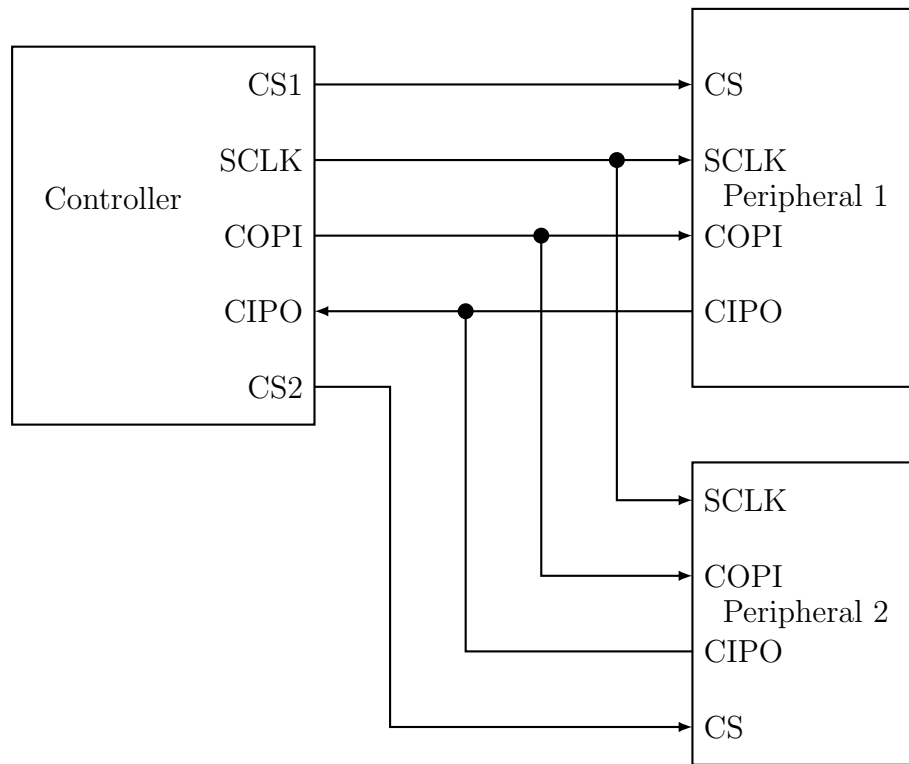

Figure 5.6: SPI allows for one (sometime more) controller and multiple peripherals.
The Serial Peripheral Interface (SPI) is a full-duplex serial interface shown in Figure 5.6. It is setup in a controller-peripheral (previously known as master-slave) architecture with only one controller on the bus. It does allow for multiple peripherals by giving each peripheral its own chip select (CS) line. Since it is synchronous, it does require a clock line. This means that it takes a minimum of 4 wires as listed in Table 5.2. The SCLK signal is the clock signal used by both the controller and peripheral. There is one CS line per peripheral. The CS line lets the controller specify which peripheral it is communicating with. The COPI line is the data going from the controller to the peripheral. The CIPO line is the data going from the peripheral to the controller.